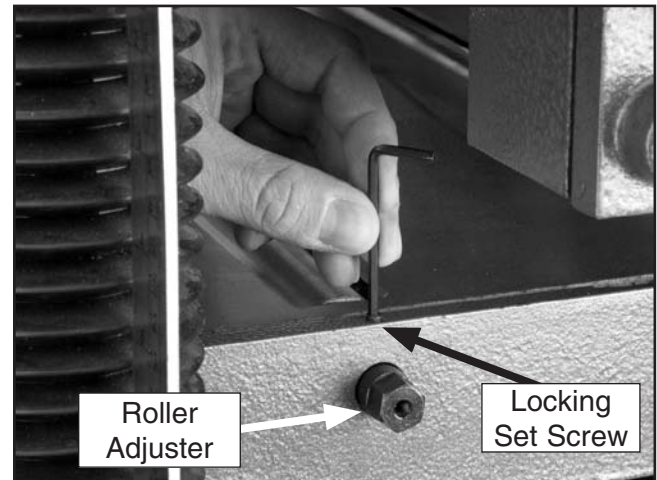

Figure 14. Bed roller controls (only one side shown).
2. Loosen the locking set screws (**Figure 14**) above the roller adjusters (4 total).